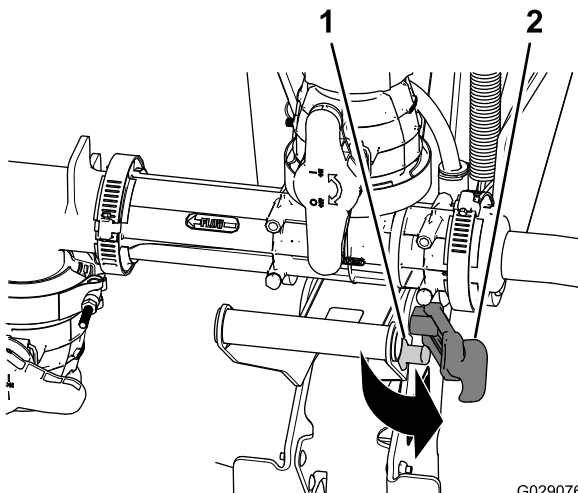

Figure 37
5. Pull the latch handle onto the latch post (Figure 37).